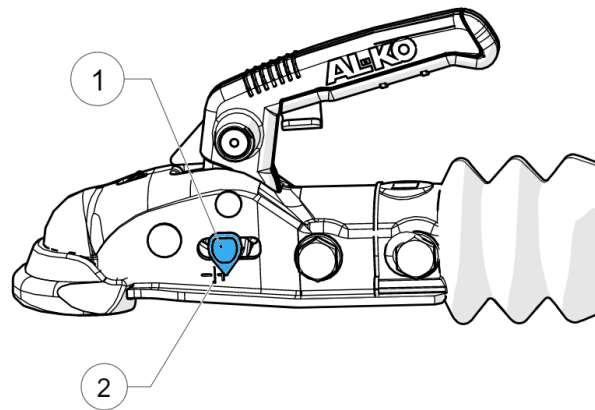

Figure 23 - Tow hitch wear indicator
10. Check that the wear indicator (1, Figure 23) is on the positive side of the limit mark (2, Figure 23).